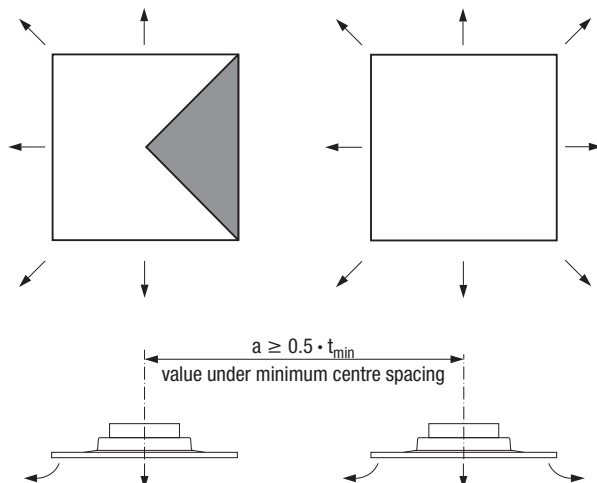

Figure 11: Position of segment cover when the outlet spacing is under the minimum value
b) If the specified minimum centre spacing between two outlets cannot be complied with, we recommend an arrangement as shown in Figure 11.